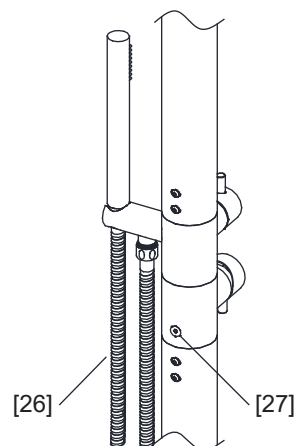

Fig 6
1. If the lowest temperature is higher than 32°F at your location, you can leave your outdoor shower faucet outside. If the outdoor shower faucet will not be used for an extended period, turn the diverter handle upward and drain the water from the faucet by removing the **Plug [27]** at the back of the faucet. Disconnect the **Shower Hose [26]** from the faucet and drain the water inside. Reinstall the **Shower Hose [26]** and **Plug [27]** on the faucet. (Fig 6)